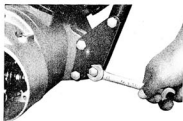

Fig. 4-1-14
13. Remove the engine mounting bolts, and de-mount the engine from the frame, (Fig. 4-1-14)